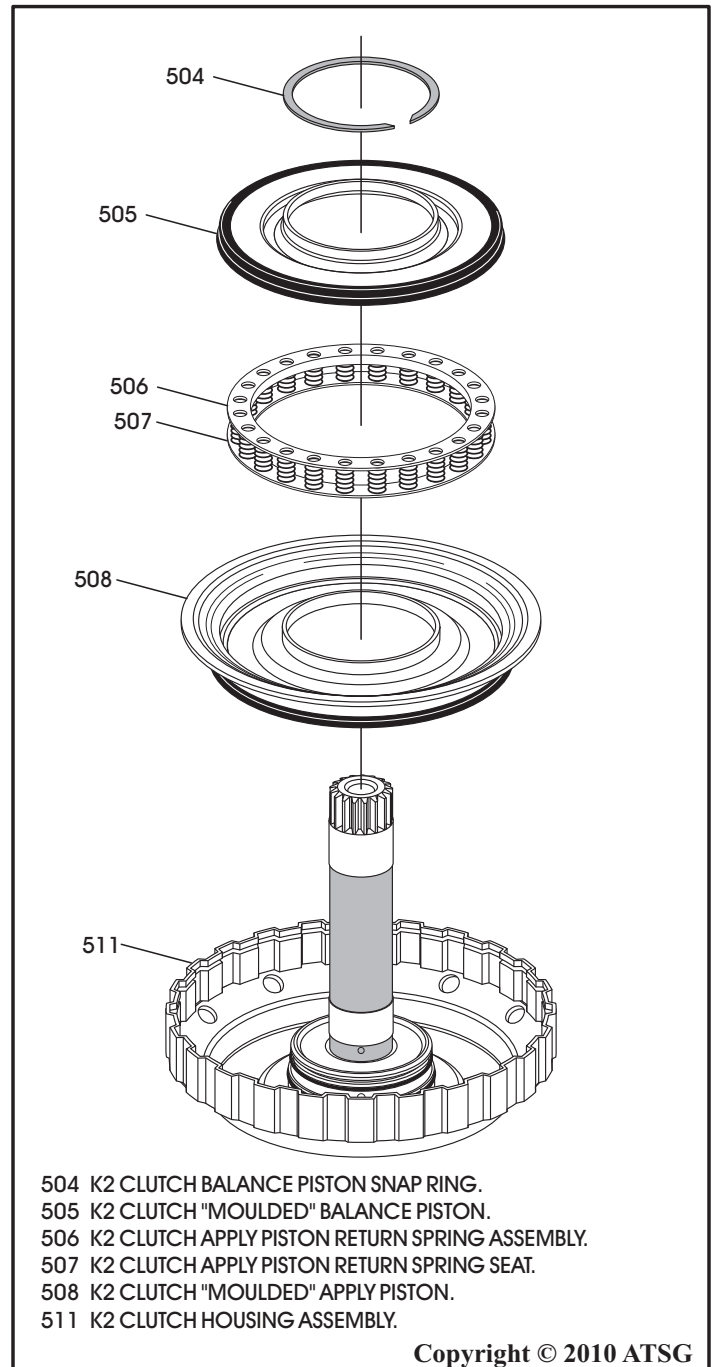

Figure 123
7. Lubricate the seal surfaces of K2 clutch apply piston and install the piston into K2 clutch housing, as shown in Figure 123
8. Install K2 clutch piston return spring assembly, as shown in Figure 123.
9. Lube the balance piston seal and install piston, as shown in Figure 123.
10. Compress the balance piston and install the snap ring, as shown in Figure 123.